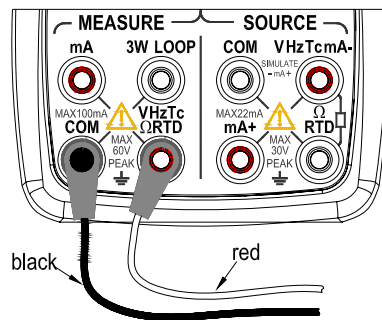
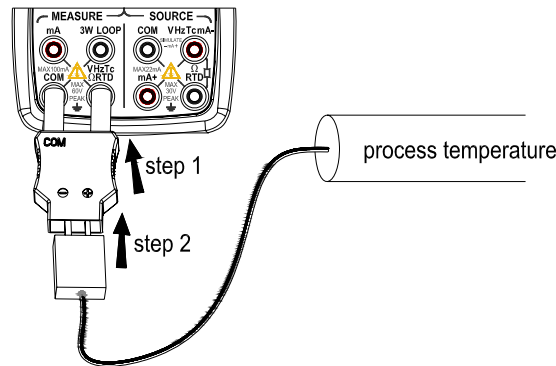

Figure 11 - Measuring DC voltage, ohms, frequency, continuity and switch
Figure 13 - Measuring TC (thermocouple temperature)
For DC voltage, Ohm, frequency, continuity, or switch mode **(Figure 11)**
For thermocouple signals (refer to Figure 13)
Step 3: Connect the test lead cables to the measuring terminals of the instrument under test as shown in Figure 11.
8.5 Measuring Temperature with a Thermocouple (TC)
Step 3: Connect the thermocouple convertor to the jack under test as shown in Figure 13. The selected function, the measured value, and the unit of measure are shown in the upper area of the LCD.
Continuity measurements are used to detect the completeness of a circuit or wire (e.g. a resistance smaller than 50 ohms). Using the function selector switch (**FUNC**), select the continuity measurement function. The LCD displays the continuity symbol “” on the upper area. Connect the devices as shown in Figure 11, and the beeper will sound continuously if the loop circuit resistance is smaller than 50Ω; The LCD shows the measured resistance.